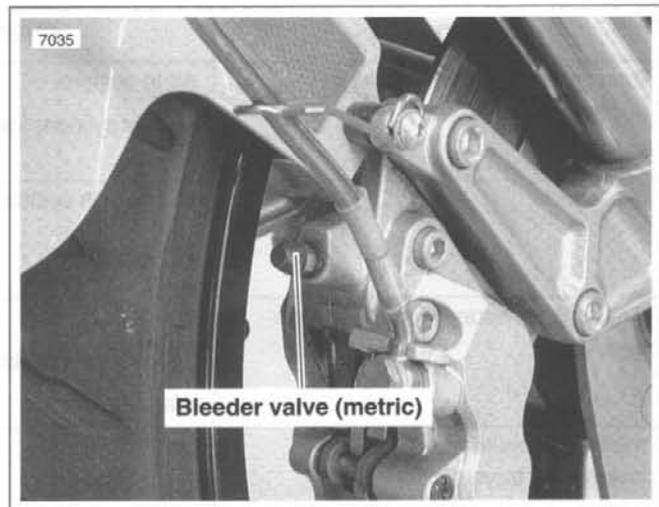

Figure 2-60. Draining Front Brake System
1. See Figure 2-60. Drain brake fluid into a suitable container. Discard of used fluid according to local laws.